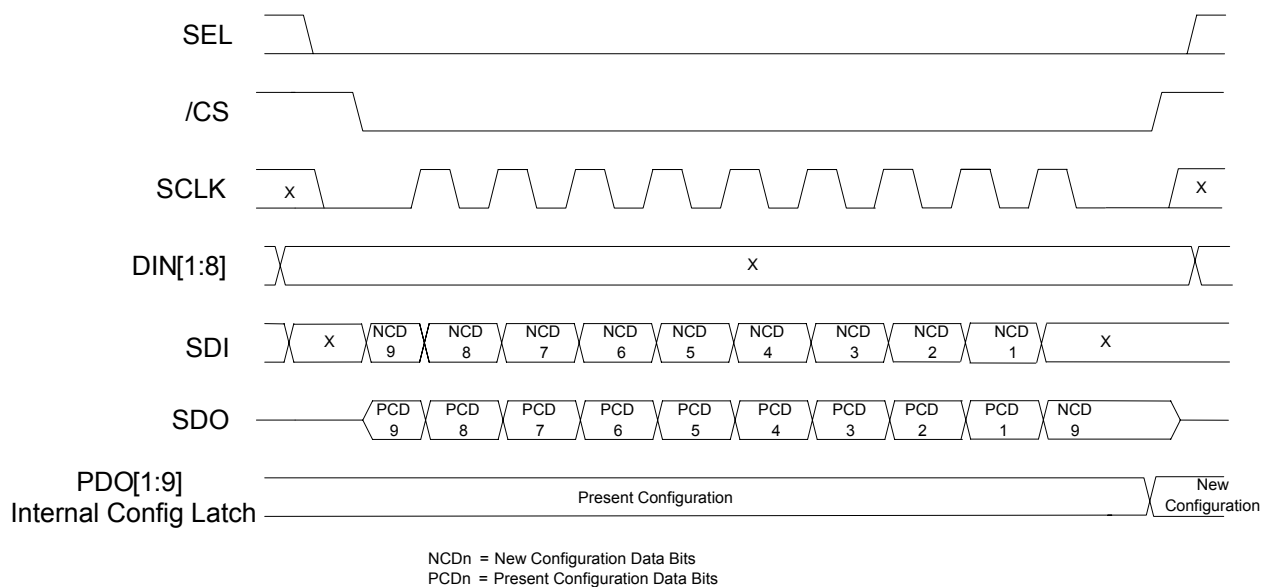
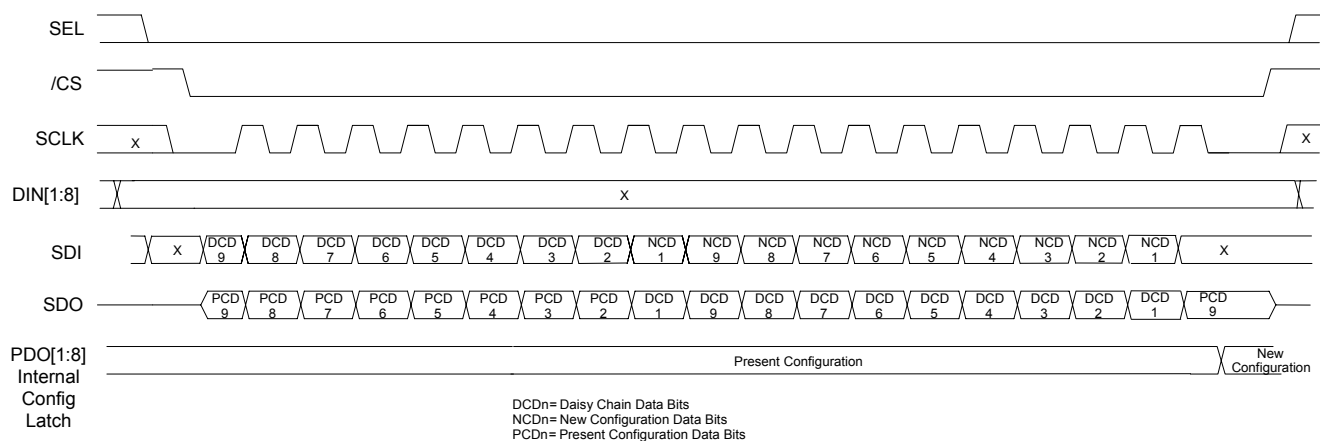

Figure 6 Write Configuration Register
Figure 7 Write Configuration Register, 18 bit Daisy Chain (See Figure 16)
The 9-bit Configuration Register (CR) is a “serial-input, parallel-output with data latch” register that individually configures each AFE input as either GND/OPEN or 28V/OPEN format. (CR[n]: 0 sets DIN[n] to 28V/OPEN mode (pull-down); CR[n]: 1 sets DIN[n] to GND/OPEN mode (pull-up)). The register is reset to 0's at Power Up and the AFE inputs are forced in to high impedance mode until the CR is programmed. (see Power Up Initialization). Bit 9 is used to enable or disable Built-in Test (see BIT Operation). The register is programmed via the serial data input as described in Figure 6 and Figure 7.